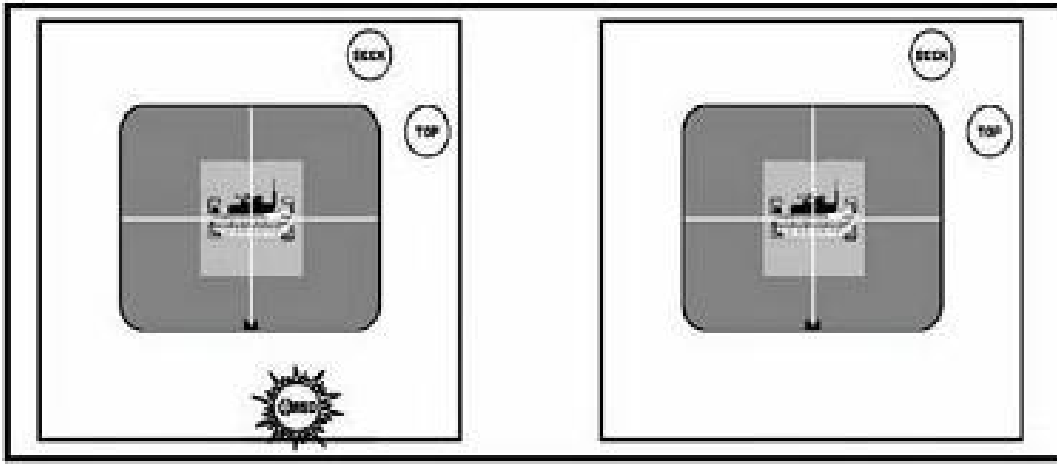

Figure 1. Misfire - with and without warning indicators.
1. React to Misfire (Figure 1).